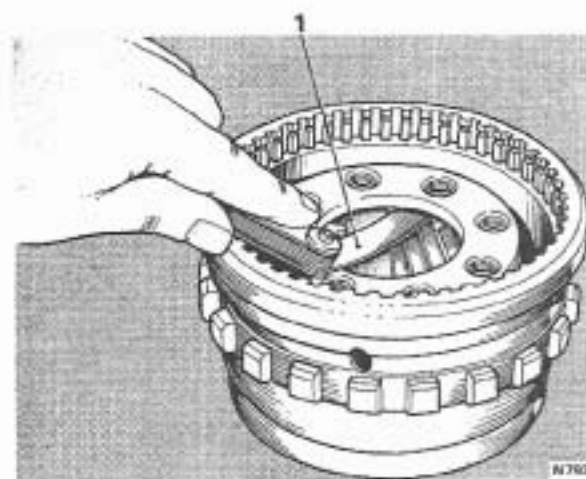

FIG. T273 CHECKING OUTPUT CARRIER PINION END FLOAT
5. Drive the gear down the shaft until the distance from the rear face of the gear to the end of the output shaft measures 15.00 in. (38.1 cm.) (see Fig. T273).
4. Check the end float of the pinions with the aid of a feeler gauge (see Fig. T273). The end float should be between 0.009 in. and 0.024 in. (0.228 mm. and 0.610 mm.).